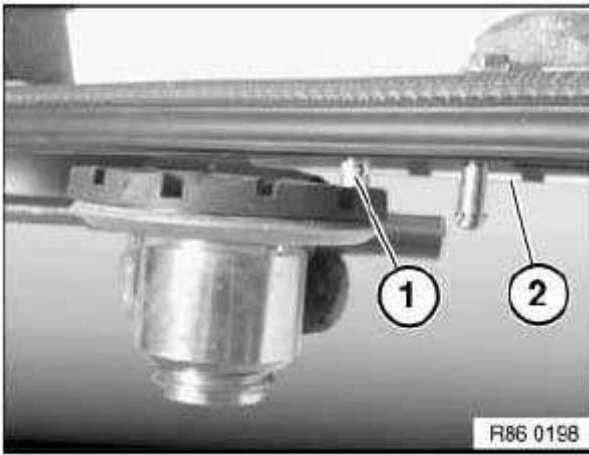

Fig. 38: Pin And Hood
IMPORTANT: The hood may only be raised at the pin (1). Under no circumstances may the hood be raised at the GFP edge of the hood (2). See Fig. 38. Exclusively for removal of pin (1), raise the hood in the GFP area.